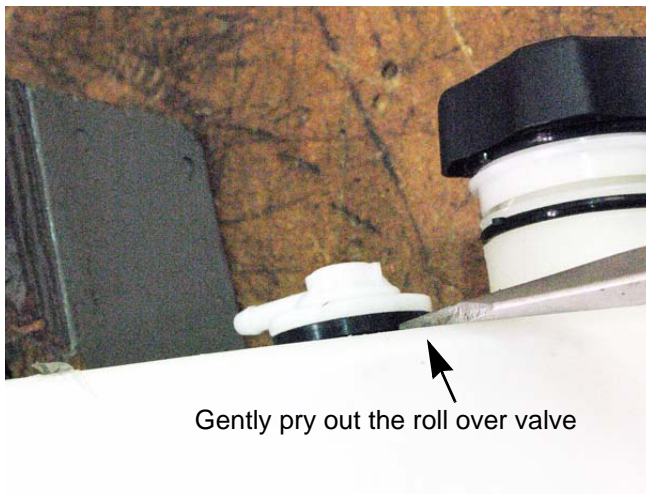

Figure 4.16
2. Gently pry the roll over valve out of the fuel tank. See Figure 4.16.